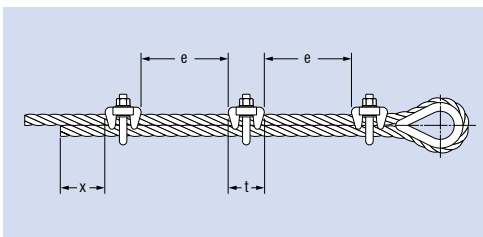

Fig. 8: Gaps after positioning
- Further wire rope clips must be positioned at a uniform distance, but not tightened with the actual torque (Figure 8).